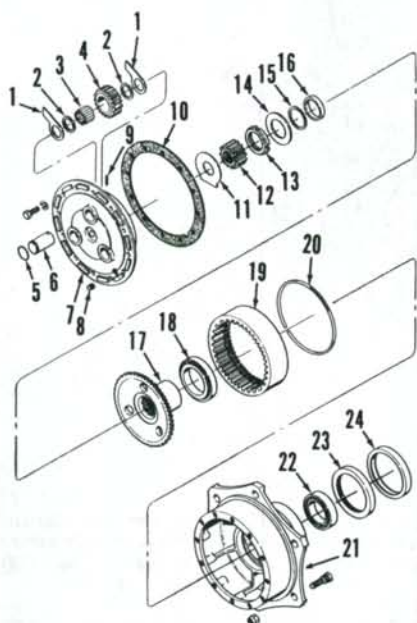
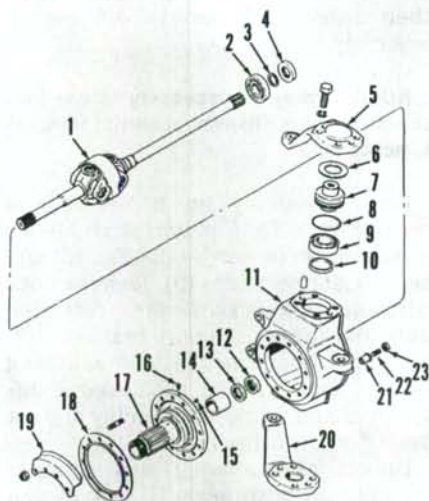

Fig. 9—Exploded view of wheel hub and planetary unit used on Carraro front drive axle.
Fig. 10—Exploded view of pivot housing and components used on Carraro front drive axle. Items (6 through 10) are also used in bottom of pivot housing (11).
10. R&R AND OVERHAUL. To remove the wheel hub and planetary, support axle housing and remove wheel and tire assembly. Rotate wheel hub until drain plug (8—Fig. 9) is at bottom, remove plug and drain oil. Unbolt and remove cover and carrier assembly (7). Drive out roll pins (9) and remove planetary pins (6) with "O" rings (5).
Remove cone of bearing (22), from stub shaft (17—Fig. 10) and cone of bearing (18—Fig. 9) from gear hub (17). Remove dust seal (24) and oil seal (23). If necessary, remove bearing cups from hub. Remove retaining ring (20) and lift gear hub (17) from ring gear (19).
rotate the hub. A torque of 35 in.-lbs. (4 N·m) will give the correct wheel bearing preload. Add or remove shims (15—Fig. 9) to obtain correct bearing preload. Shims are available in thicknesses of 0.004, 0.012 and 0.020 inch (0.1, 0.3 and 0.5 mm).
11. REMOVE AND REINSTALL. To remove the stub axle (17—Fig. 10) and axle shaft (1), first remove wheel hub as outlined in paragraph 10. Then, remove the 12 stud nuts and lift off breather shield (19) and deflector (18). Remove the two dust plugs and install jack screws in stub axle. Tighten jack screws to separate stub axle from pivot housing (11). Remove stub axle, then remove dust seal (12), oil seal (13) and if necessary, bushing (14).
12. REMOVE AND REINSTALL. To remove the pivot housing (11—Fig. 10), first remove wheel hub as in paragraph 10 and stub axle and axle shaft as in paragraph 11. Then, disconnect steering cylinder from upper steering arm (5) and tie rod from lower steering arm (20). Unbolt and remove lower steering arm (20) and lower shims (6). Attach a slide hammer to lower pivot pin (7) and remove pivot pin and bearing cone. Unbolt and remove upper steering arm (5) and upper shims (6). Using a slide hammer, remove upper pivot pin (7) and bearing cone. Lift off pivot housing (11). If necessary, use a slide hammer puller to remove bearing cups from axle housing.